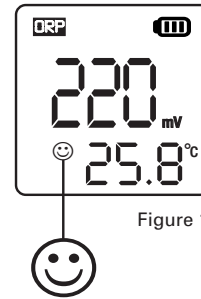

Figure 1
4. Dip electrode in the ORP standard solution (Zobell's solution), stir gently, and allow it to stand still in the calibration solution until a stable reading is reached. When measurement stability icon (☺) appears and remains on the screen (see Fig. 1), press MODE/△ key to adjust the calibration value according to the table below (also on the buffer bottle's label).